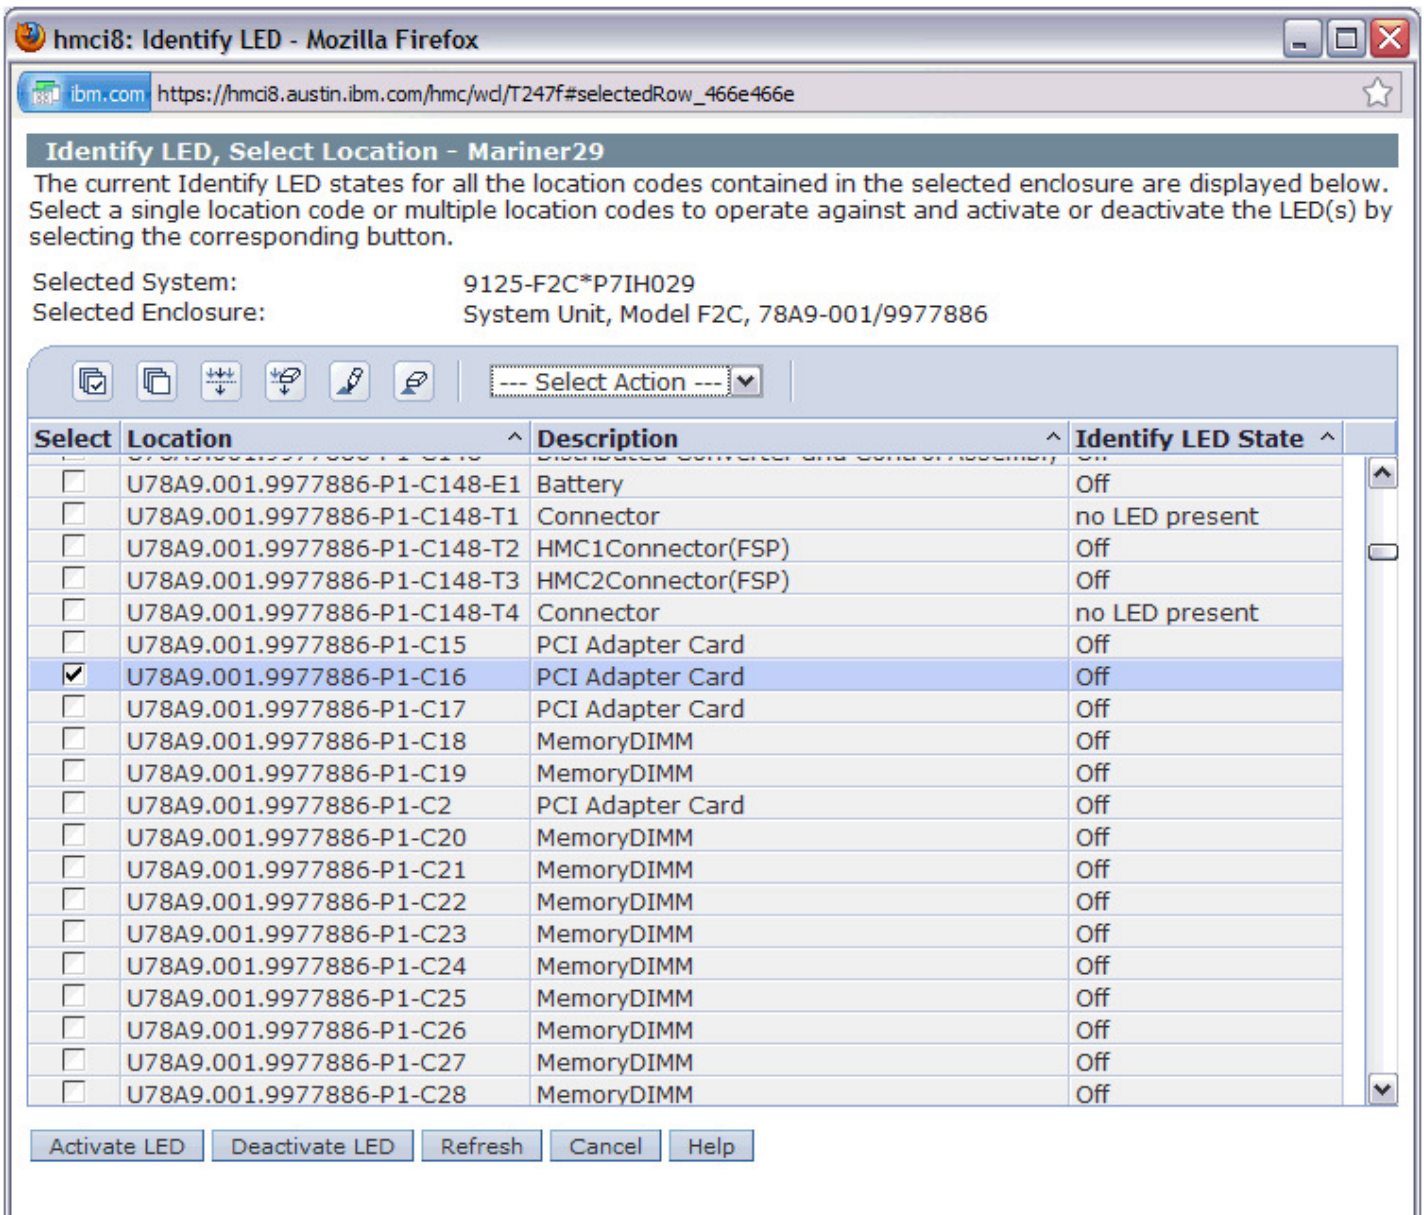

Figure 10 UNVSA Identify LED Selection
STEP 12 In the window **Identify LED, Select Location**, place a checkmark in the Select column for the UNVSA (it will be shown as a PCI Adapter Card) Location Code requiring service and then *click* the **Activate LED** button. **Figure 10** shows the example of selecting the UNVSA Identify LED in **U78A9.001.[Serial#]-P1-C16**: this is one of two typical locations for a UNVSA, the other being C14. After *clicking* the **Activate LED** button, wait for the screen saying the activate was successful and *click* the **OK** button.